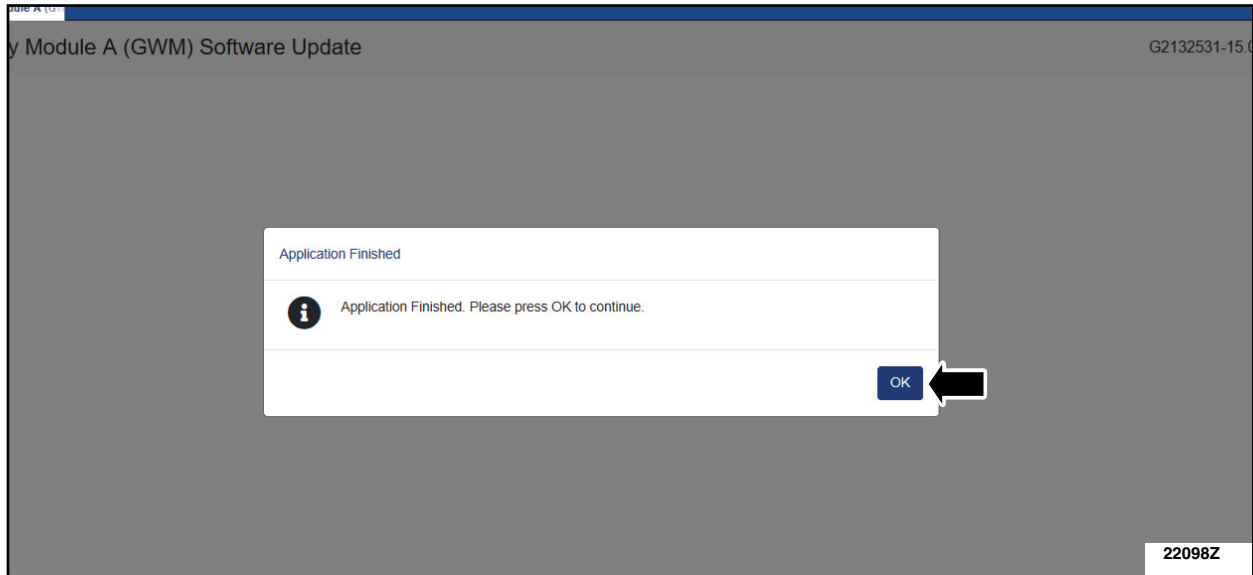

FIGURE 24
26. Click OK on the FDRS screen when the application finished message appears. See Figure 24.